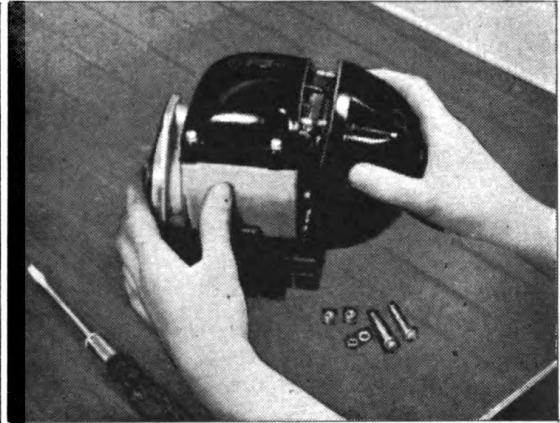

Fig. 42. Method of Removing or Installing Distributor Cap
- (b) Put the distributor cap back into place. Fig. 42.
- (a) Replace the distributor cap with a new one. Fig. 42.